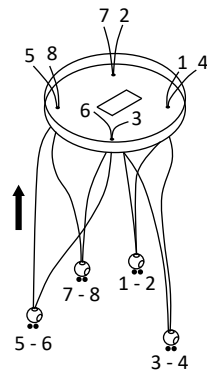

Fig 7
5. Put wires through the ceiling bracket cover (Fig 7) and attach to ceiling bracket (Fig 8).